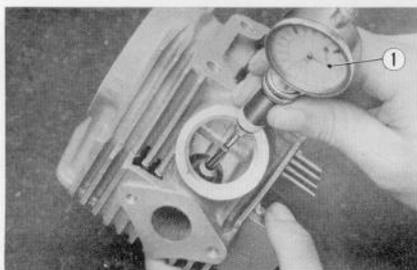

Fig. 3.20 Checking the valve guide diameter
Check the valve guide diameter at the top, center and bottom in both the X and Y axes, using a precision cylinder gauge ①. Check the valve stem with a micrometer. (Fig. 3.20)